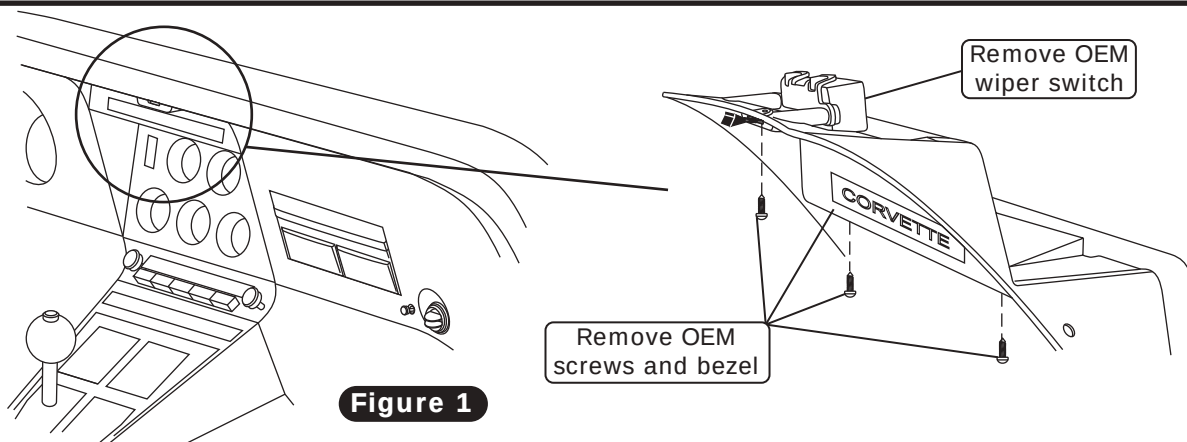

Figure 1
1. Remove the OEM center dash bezel, OEM wiper switch knob and OEM wiper switch as shown in Figure 1, below.
2. Secure the wiper switch and ground wire to the wiper switch bracket using (2) 10-32 x 1/2" pan head screws and (2) nuts with star washers as shown in Photo 1, below.
3. Install the OEM wiper switch assembly onto the supplied center louver bezel using (2) #6 x 3/8" pan head screws as shown in Photo 2, below.